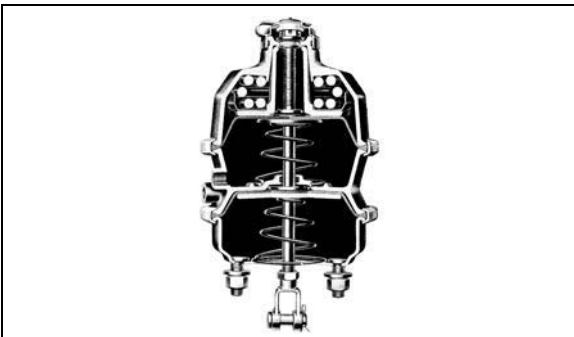
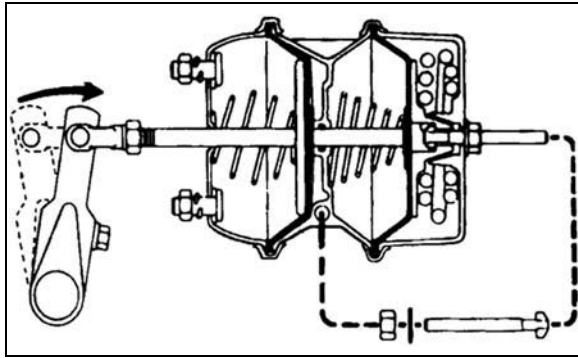

Figure 20
Figure 21
3. Determine whether the chamber has an internal (Figure 20) or external (Figure 21) caging tool. Proceed to step 4 with an external-mounted tool. See step 8 for internal types.